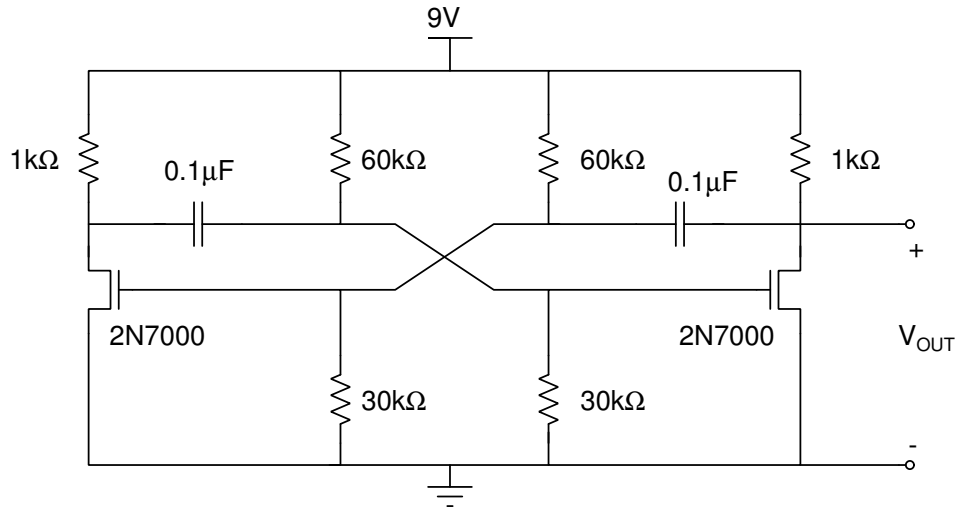

Figure 4: Full astable multivibrator circuit to build.
4. Expand your half-circuit to be the full astable multivibrator circuit as shown in Figure 4. This is the complete multivibrator circuit and it should oscillate when the power is supplied.